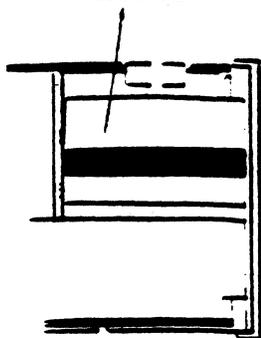
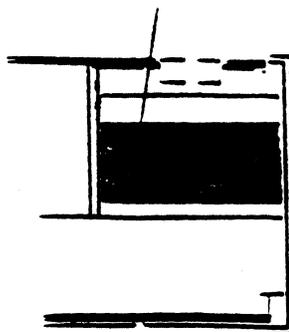

Figure 3
Figure 4
Check the microprocessor IC22 (40 pin chip on component side of logic board) to see if proper chip is installed. If the drive has a narrow band stepper motor (see figure 3) the correct numbers should be 6109-2. If the drive has a wide band stepper motor (see figure 4) the correct numbers should be 6052-13B. If the microprocessor is the wrong revision, call Customer Support (415) 594-2949 for a replacement, be sure to also ask for a capacitor (part# 1000376-08). After replacing the microprocessor, install the capacitor.